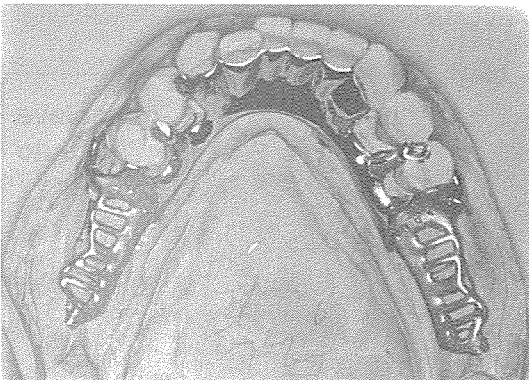

Fig. 7. Linguoplate가 indirect retainer로 가능함
3. Kennedy bar, linguoplate(Fig. 7)